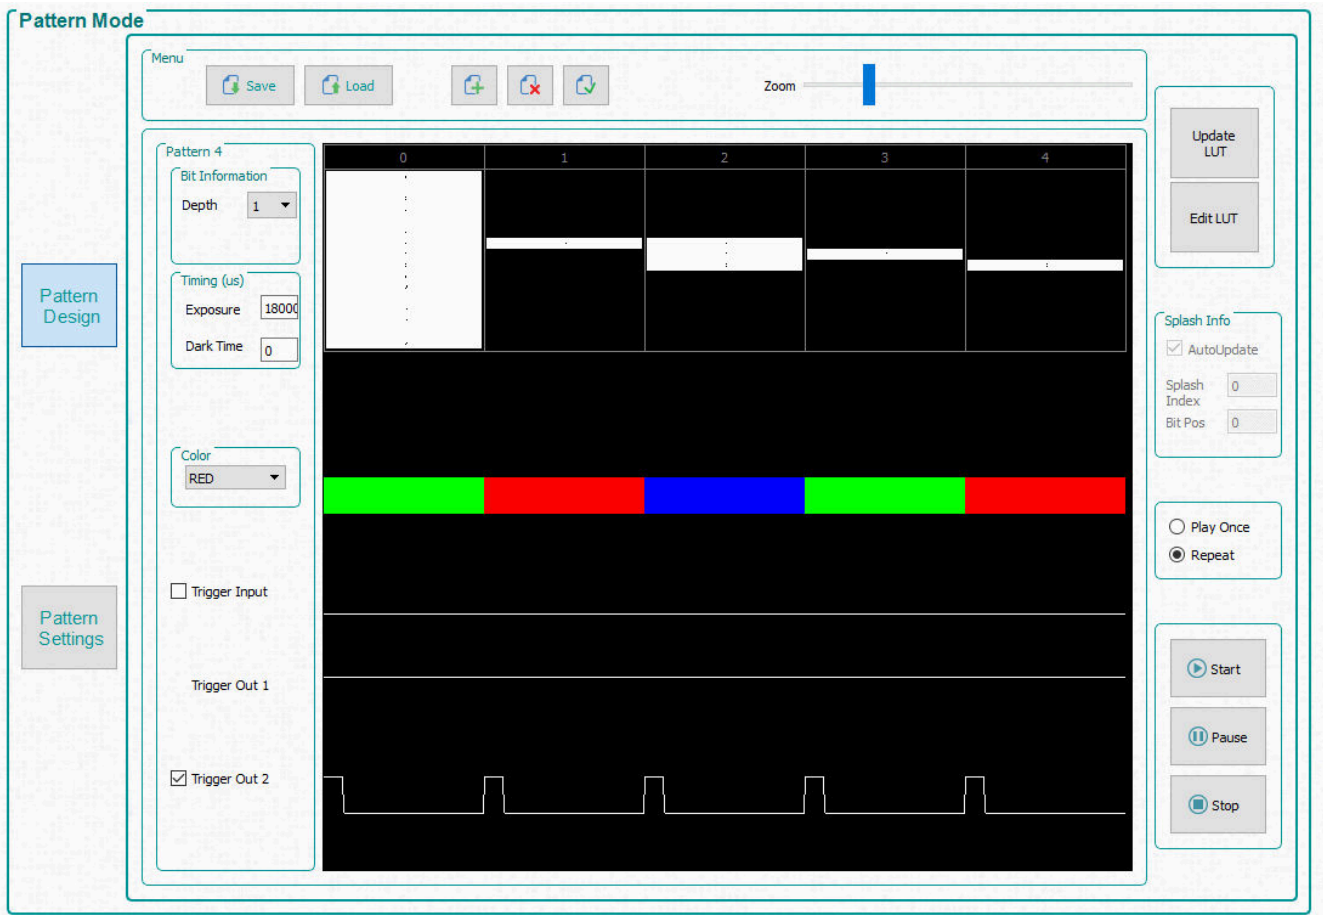

Figure 6-15. DMD Block Load Pattern Sequence
4. The pattern design looks similar to Figure 6-15.